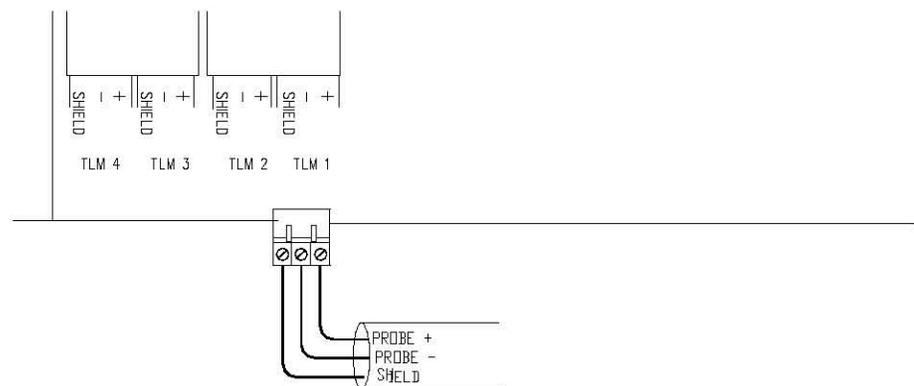

Figure 13: TLM Input Connections
2. See *Figure 13* on *page 22* and locate the TLM input connections on the main console board. There are four sets of connections for up to four TLM probes.
5. Insert and tighten each wire into the 3 position connector (*Figure 13*).